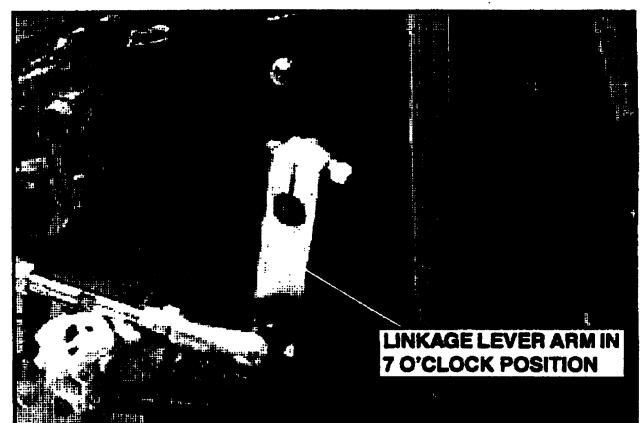

FIGURE 6.20A
19. While holding the Governor Lever down against the Engine Low Idle position, locate the linkage lever arm onto the stepping motor splined shaft at approximately 7 o'clock position and secure the Ball Joint to the governor arm. See Figure 6.20A.